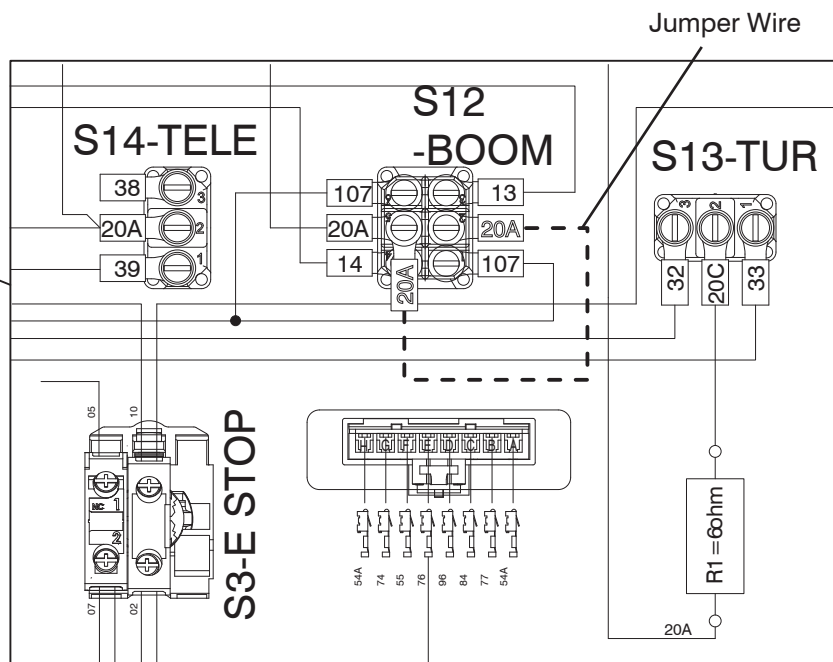

Figure 2-2. Jumper Wire Installation
4. Install one end of supplied jumper wire (156772) in terminal 2 of switch "S12-BOOM". See Figure 2-2.
5. Install other end of jumper wire in terminal 5 of switch "S12-BOOM". See Figure 2-2.